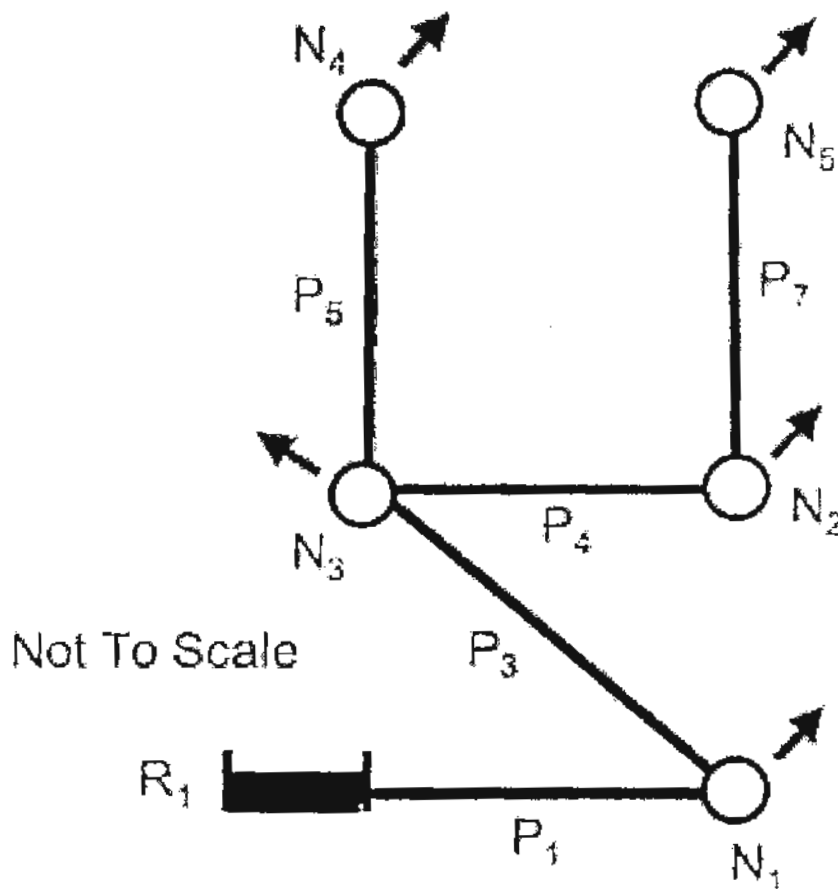

Figure 1. Water supply system.
1. A branched pipe network conveys water from reservoir R1 with constant water level of 70 m to 5 nodes, all at elevation of 20 m (Figure 1). All pipes are made of PVC material and have a Hazen-Williams 'C' factor of 138, an internal diameter of 406 mm, and a length of 255 m. Nodes 1 through 5 have a maximum day demand of 1.5 L/s. Node 5 also carries a fire flow of 33 L/s.